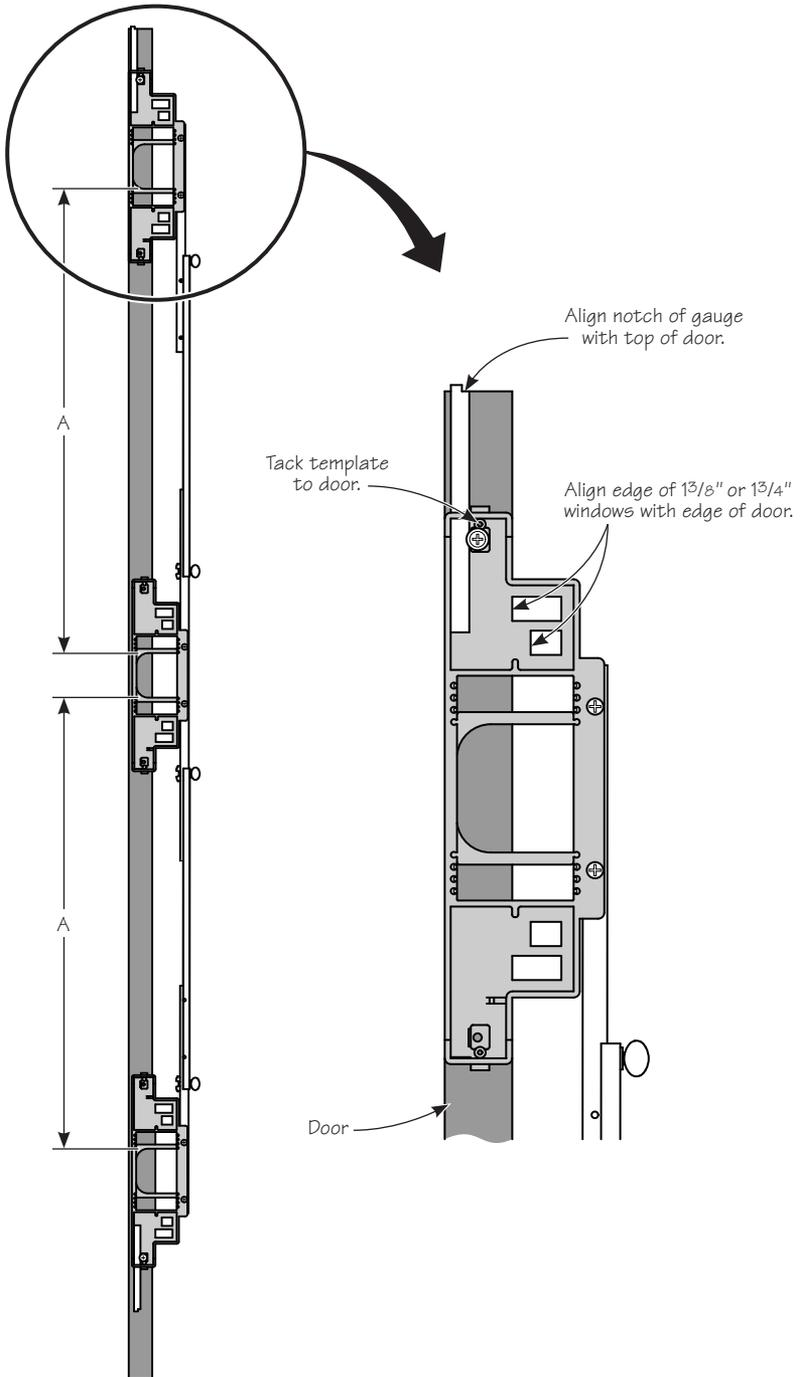

Figure 7: Aligning notched gauge and window on door.
4. Set the middle template by making the space between the upper and middle templates **exactly equal** to the space between the lower and middle templates. (*Dimension A* on **Figure 7**.) Tack in place.